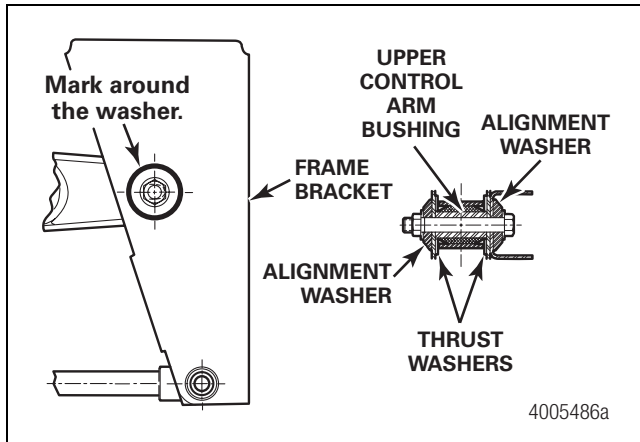

Figure 1
6. Remove the curbside pivot bolts, nuts and washers from the frame bracket. Figure 1.